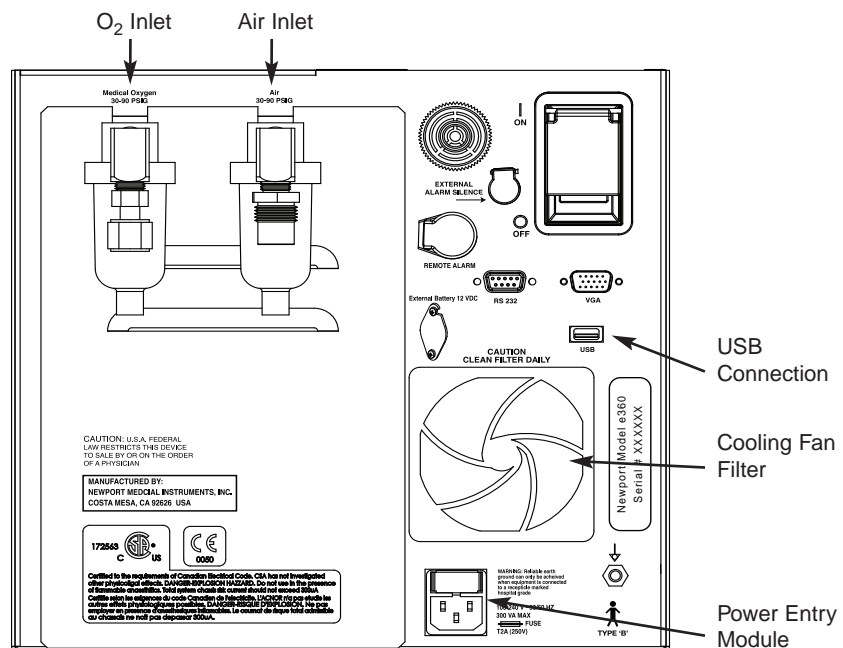

Figure 2-13 Back Panel of e360 Ventilator
- 1 Confirm the e360 ventilator is OFF and connect AC power cord to the AC wall outlet (see Figure 2-13 for Power Entry Module location).
- 5 Connect USB Flash Drive (with latest software) to the USB port on the Back Panel of the e360 ventilator (see Figure 2-13 for USB port location).
- 2 Connect medical grade air source to Air Inlet on the Back Panel of the e360 ventilator and make sure that medical grade air source can provide at least 30 psi and does not exceed more than 90 psi. (see Figure 2-13 for Air Inlet).